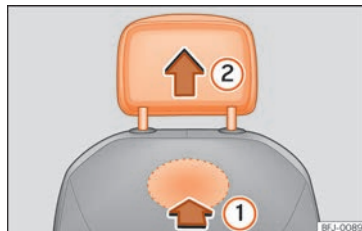

Fig. 70 Front head restraint: removal.
- To unlock it, look for the rabbet on the bottom of the backrest and press in the direction of the arrow >>> Fig. 70 **1**.